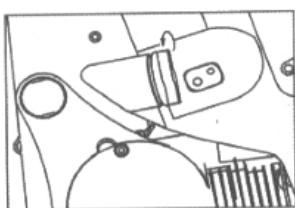

Fig. 4
- III. Remove the fuel tank cap carefully so as to allow any pressure build-up in the tank to release slowly. (Ref. Fig.4)